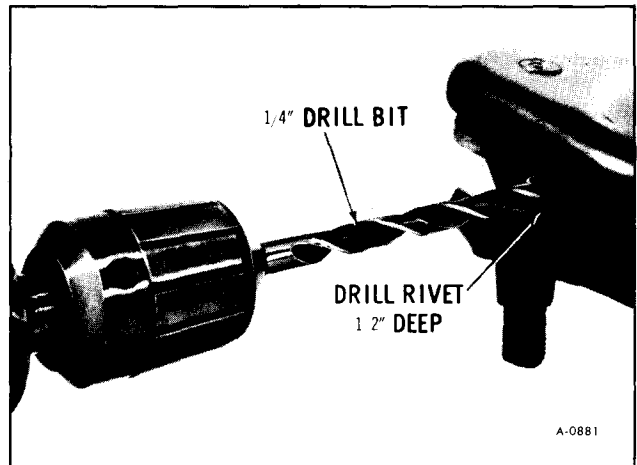

Figure 27—Drilling Ball Joint Rivets
2. Drill side rivets 1/2" deep using 1/4" (figure 27) drill bit. Drill same rivets again with 1/2" drill bit just deep enough to remove head of rivet.